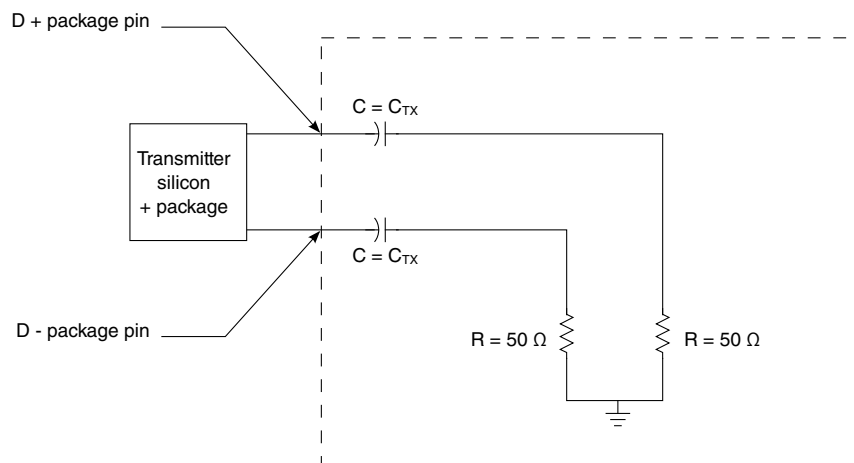

Figure 41. Test/measurement load
Notes: 1. Specified at the measurement point into a timing and voltage test load as shown in Figure 41 and measured over any 250 consecutive transmitter UIs. 2. A T _{TX-EYE} = 0.75 UI provides for a total sum of deterministic and random jitter budget of T _{TX-JITTER-MAX} = 0.25 UI for the transmitter collected over any 250 consecutive transmitter UIs. The T _{TX-EYE-MEDIAN-to-MAX-JITTER} median is less than half of the total transmitter jitter budget collected over any 250 consecutive transmitter UIs. It must be noted that the median is not the same as the mean. The jitter median describes the point in time where the number of jitter points on either side is approximately equal as opposed to the averaged time value. 3. The chip's SerDes transmitter does not have C _{TX} built-in. An external AC coupling capacitor is required. 4. For recommended operating conditions, see Table 3 .
Notes: 1. Specified at the measurement point into a timing and voltage test load as shown in Figure 41 and measured over any 250 consecutive transmitter UIs. 2. The chip's SerDes transmitter does not have C _{TX} built-in. An external AC coupling capacitor is required. 3. For recommended operating conditions, see Table 3 .
1. Specified at the measurement point and measured over any 250 consecutive UIs. The test load in Figure 41 must be used as the receiver device when taking measurements. If the clocks to the receiver and transmitter are not derived from the same reference clock, the transmitter UI recovered from 3500 consecutive UI must be used as a reference for the eye diagram.